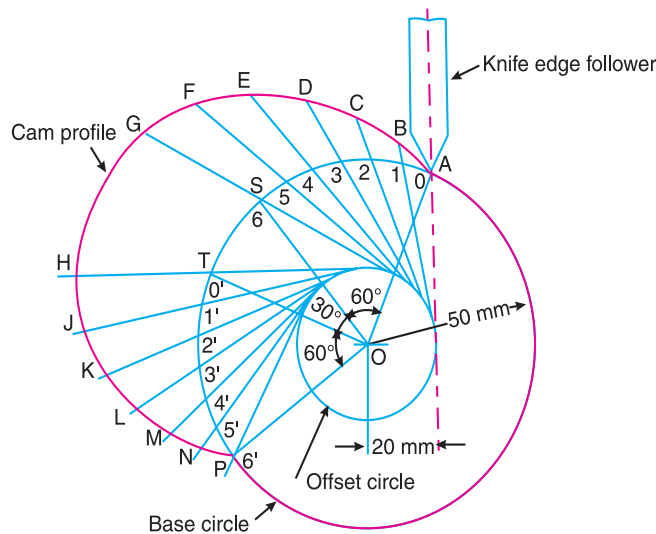

Fig. 20.12
The profile of the cam when the axis of the follower is offset from the axis of the cam shaft, as shown in Fig. 20.12, is drawn as discussed in the following steps :
6. Now from the points 1, 2, 3 ... etc. and $0', 1', 2', 3' ...$ etc. on the base circle, draw tangents to the offset circle and produce these tangents beyond the base circle as shown in Fig. 20.12.